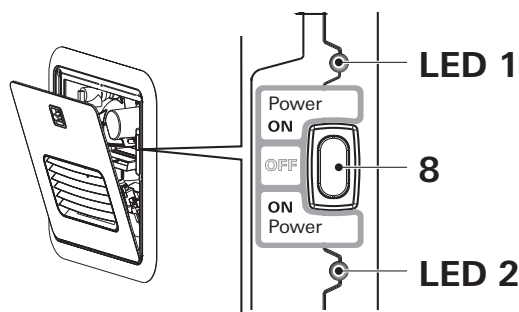

Fig. 8
2. To switch on the appliance, switch the POWER switch (Fig. 8 – 8) to one of the two “ON” positions.
- When the green power ON LED 1 (Fig. 8 – LED 1) is lit, the appliance is switched on.
- If the red error code LED 2 (Fig. 8 – LED 2) is lit / flashes, there is a fault or warning (refer to “APPENDIX A – Error Codes” on page 37).
- Switch off the appliance at the POWER switch (Fig. 8).
- The green Power-ON LED 1 (Fig. 8) extinguishes.